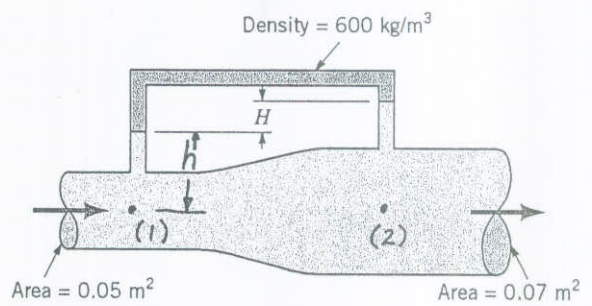

FIGURE P3.63
3.63 Water flows steadily through the variable area pipe shown in Fig. P3.63 with negligible viscous effects. Determine the manometer reading,  $H$ , if the flowrate is  $0.5 \text{ m}^3/\text{s}$  and the density of the manometer fluid is  $600 \text{ kg/m}^3$ .